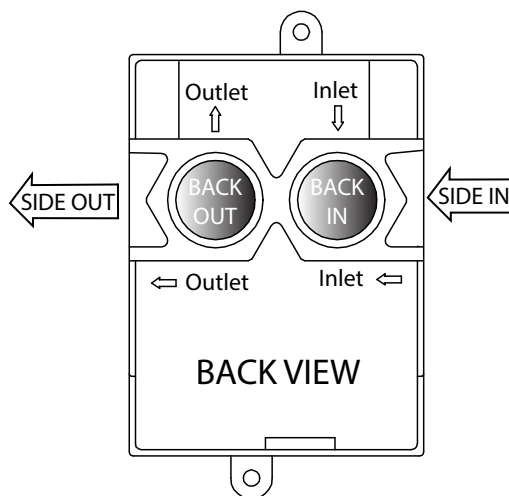
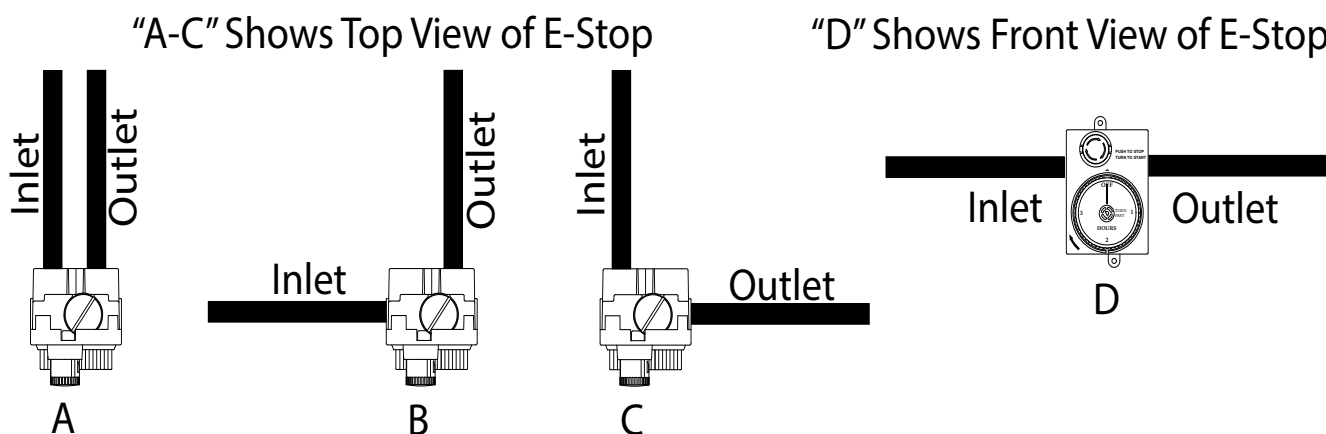
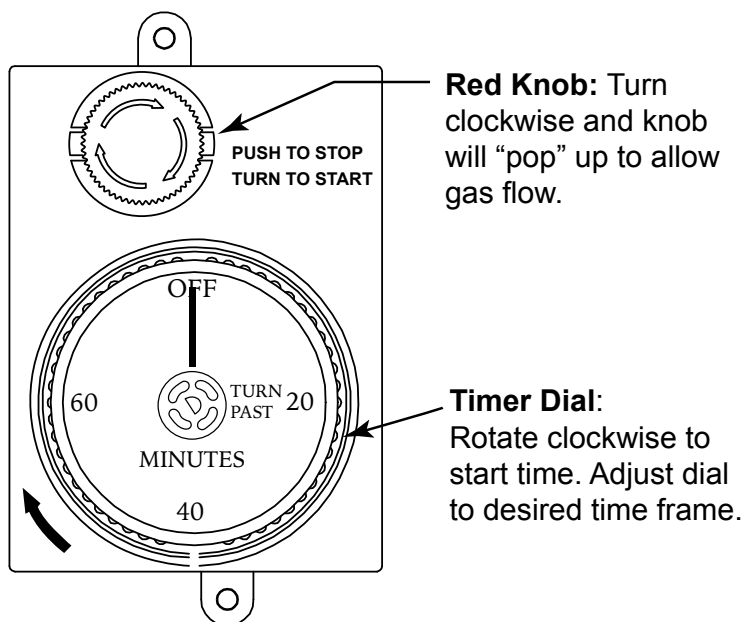
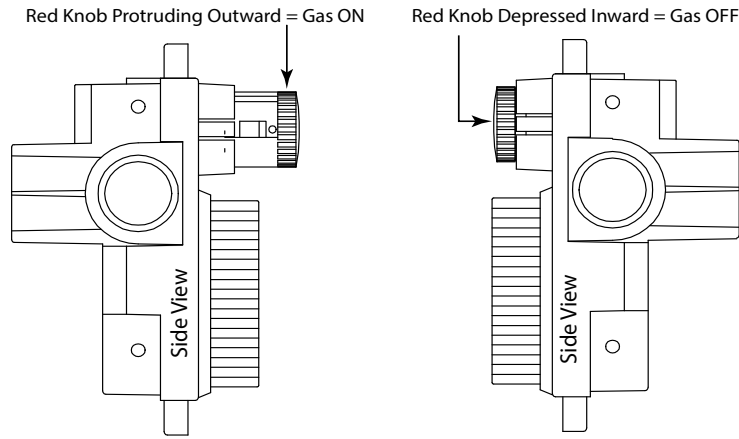

Fig. 2 Inlet and outlet connections.
Fig. 3 Plumbing options
Fig. 4 ESTOP1-0H operation.
Fig. 5 Gas Timer red knob positions
The ESTOP is recommended to be installed in an up-right position as shown in Fig 3, view "D" or Fig. 4. It has two (2) inlet and two (2) outlet gas connections. The diagrams below provide possible ways to plumb the timer (See Fig. 3). Two (2) ½" NPT plugs are provided with the timer. Plug the inlet and outlet connections not being used for the application. Connect gas supply to the inlet with the arrow ➡ pointing into the valve. Connect outlet side to the gas appliance (See Figs. 2 & 3 for details).
TO TURN OFF: Let timer expire or simply press red knob inward until it stops. The red knob will lock down with a "click" and stop gas flow. See Fig. 4 and Fig. 5 on following page.